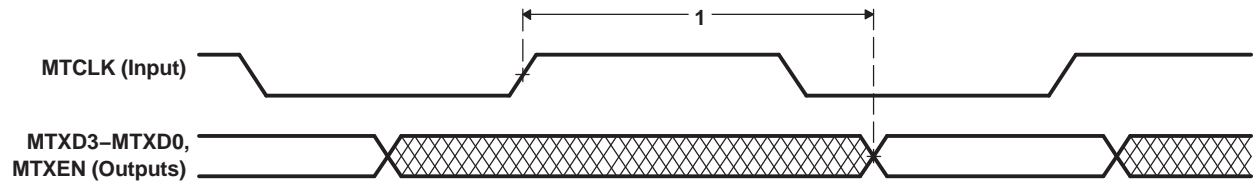

**Figure 7-61. EMAC Receive Interface Timing**
**Table 7-94. Timing Requirements for EMAC MII Receive 10/100 Mbit/s(1) (see Figure 7-61)**